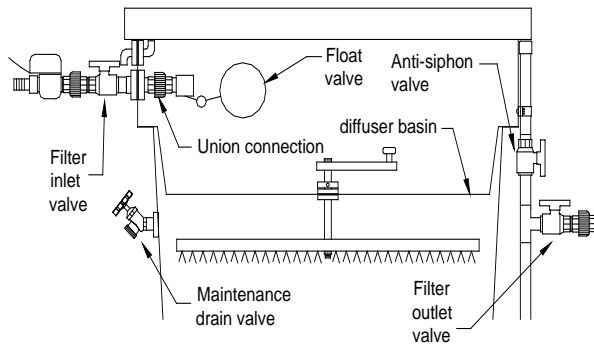

Figure 9-1
**Step 2.** Close the filter outlet valve (figure 9-1).